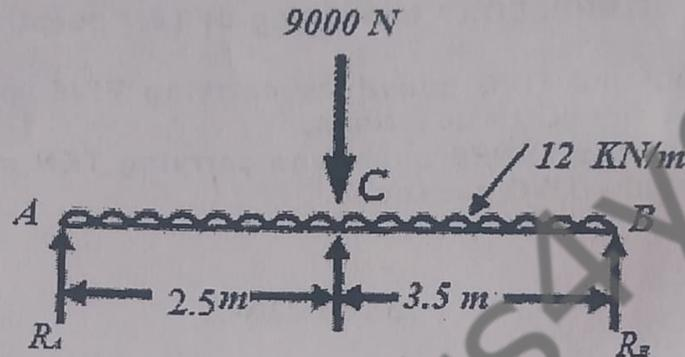

Fig. 1
- A beam having rectangular cross-section is freely supported on supports as shown in Fig. 1. It carries a UDL of 12 kN/m and a concentrated load of 9kN. If the stress in beam is not to exceed 8MPa. Design a suitable cross-section by assuming the depth of beam as twice of its width.